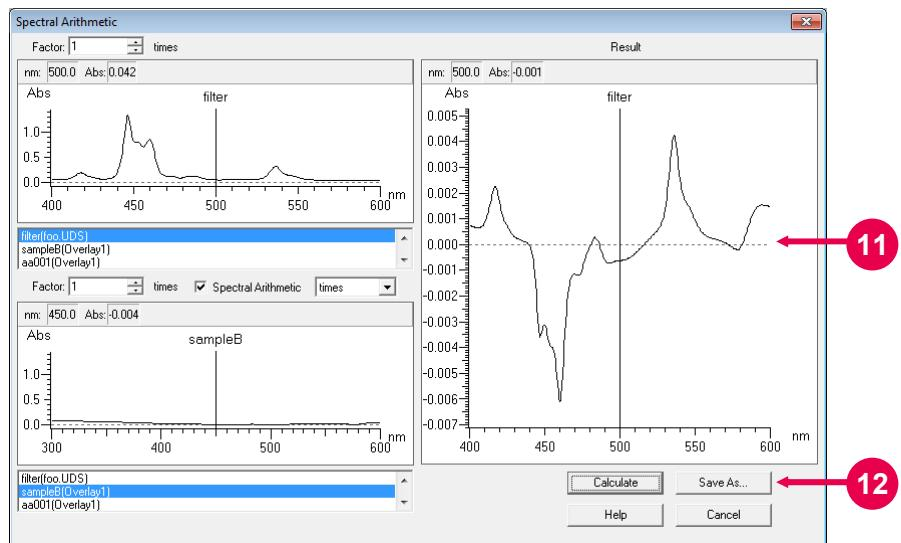

Fig. 5-32
- (11) The result of arithmetic operation is displayed as shown in Fig. 5-32 (refer to (11) in Fig. 5-32).
- (12) Click the **Save As** button to save the result of calculation as a file (refer to (12) in Fig. 5-32).